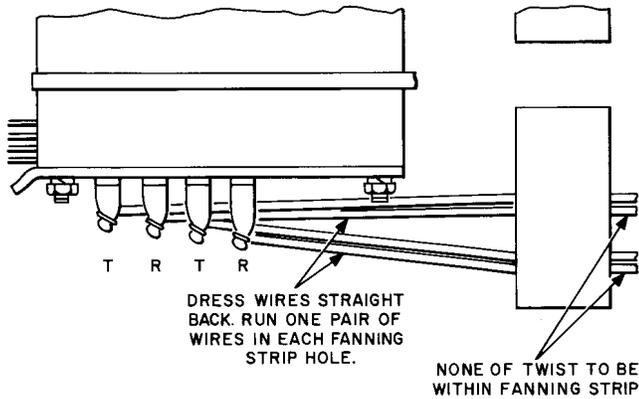
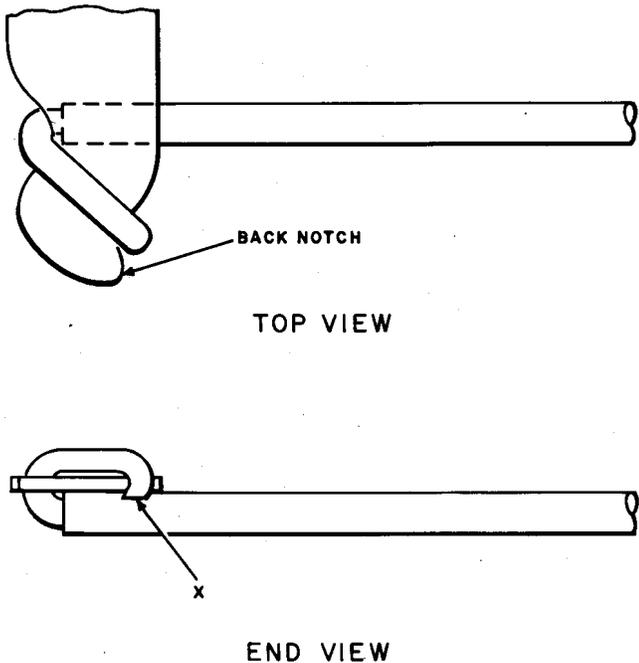

Fig. 5—Termination of Wire on 444-Type Jacks at MDF
Fig. 6—Termination of Wire on Terminal With a Back Notch
7.07 To terminate a wire on a 444-type jack, pass the wire through the proper hole in the fanning strip, as shown in Fig. 5. Bring the wire under the terminal, up through the notch, across the top of the terminal, and down through the back notch, as shown in Fig. 6. Break the excess wire at point "X", except 20-gauge wire, which should be cut.